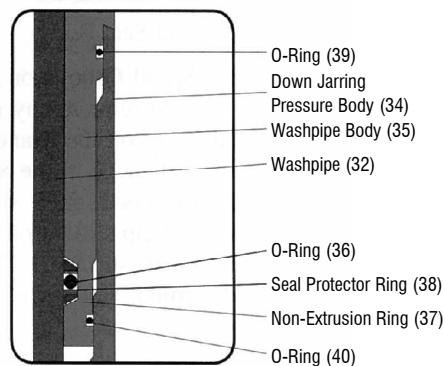

Figure 7.2
1. Install a Non-Extrusion Ring (37), Seal Protector Ring (38), other Non-Extrusion Ring, and O-ring (36) onto the ID of the Washpipe Body. Refer to Figure 7.2.